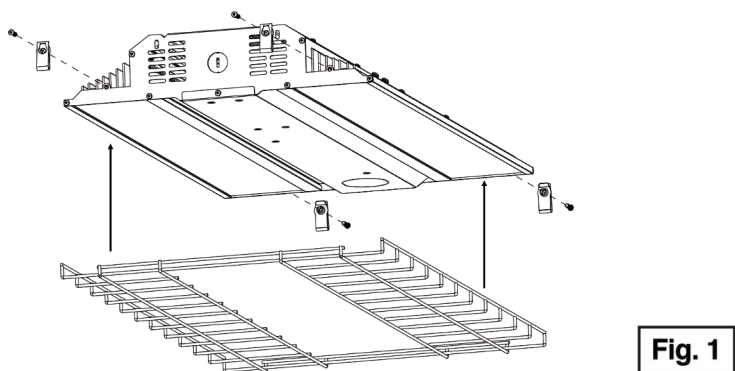

Fig. 1
Using the four (4) included M4 machine screws and four (4) included bracket clips (refer to **Fig. 1**), snap the clips onto the wire guard, and secure the clips to the fixture with the screws (**Fig. 2**).